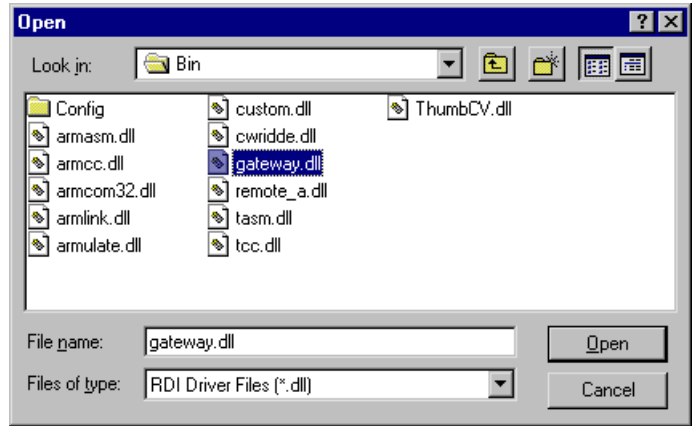

Figure 2 Adding the gateway dll
3. Click **Add...**. A standard file dialog is displayed (Figure 2)